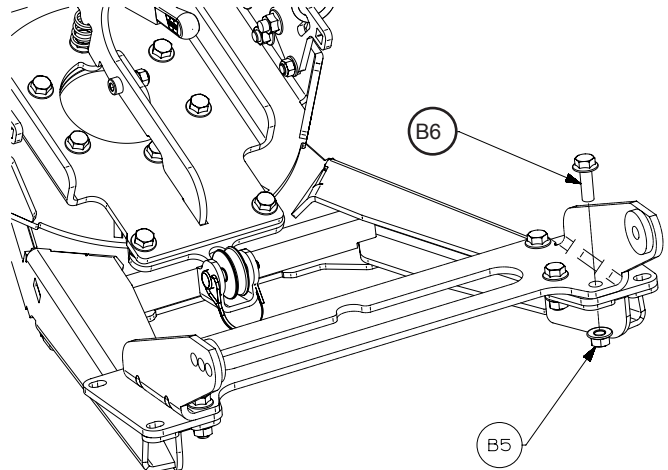

Figure 7
11. The mounting flange is located in the vehicle plow mounting kit. Position the plow mounting flange to the push tube assembly. Secure with fasteners (B5,B6) as shown in figure 7. Tighten fasteners to torque specification listed.
12. Install pulley assembly (A9) using pin supplied with pulley kit. See figure 7.